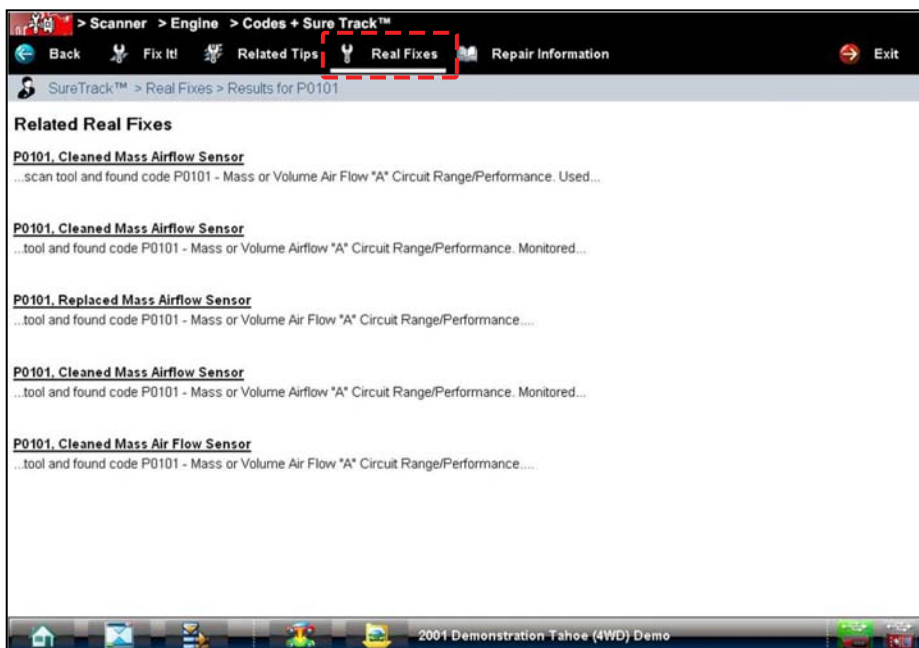

Figure 8-4 Sample Real Fixes Screen
**Real Fixes**—opens a list of tips related to the current DTC that have been gathered from actual shop repair orders and presented in a Complaint, Cause, Correction format (Figure 8-4).